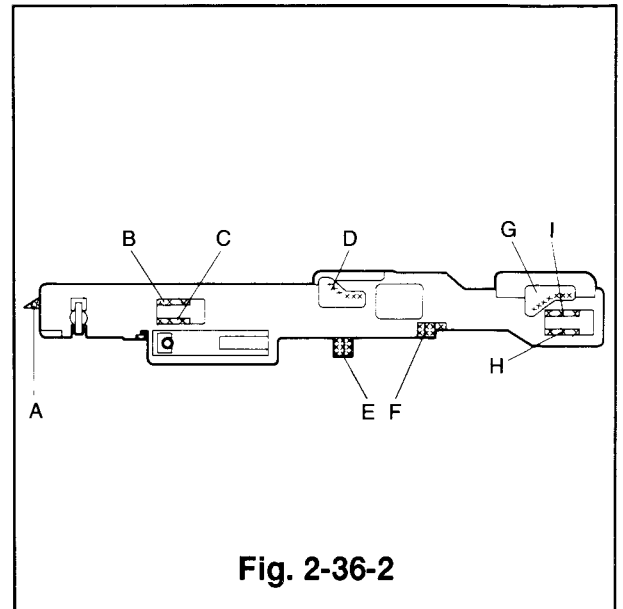

Fig. 2-36-2
- ① Apply specified grease to the area (A~I) shown in Fig. 2-36-2 of the new cam plate-C.